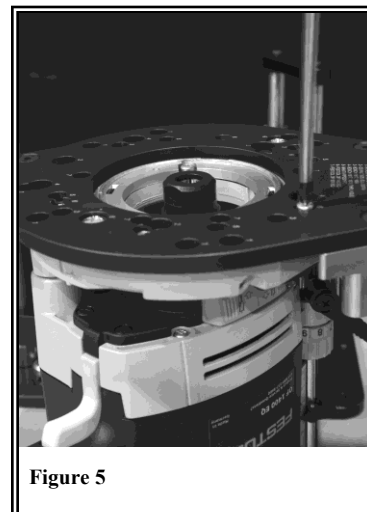

Figure 5
5. Once aligned; with the screws provided, tighten the Rout-R-Lift™ Prestige carriage to your router. (See Figure 5)